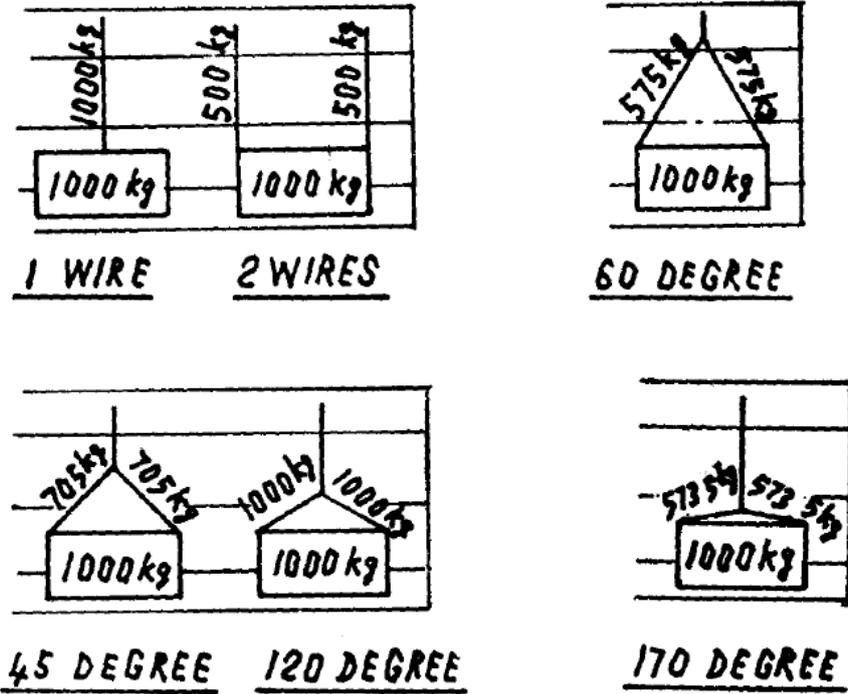

Figure 1
1. Unloading shall be done with the help of Fork lift or with the help of wire ropes. In either case sufficient care must be taken to avoid accidents and damage. The strength of rope at various angles shown in Fig. 1 shall be taken as a guideline for lifting with wire.